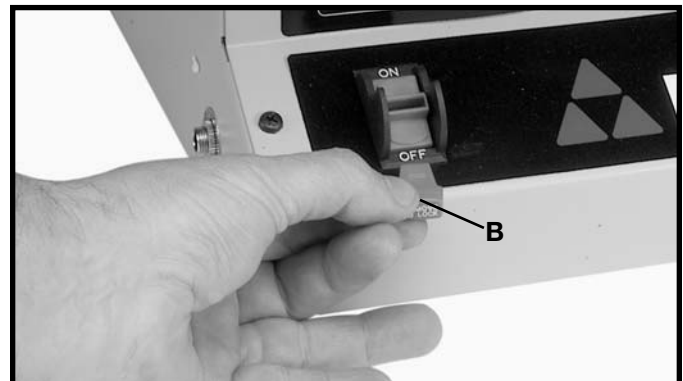

Fig. 15
IMPORTANT: When the machine is not in use, the switch should be locked in the "OFF" position to prevent unauthorized use. This can be done by grasping the switch toggle (B) Fig. 15, and pulling it out of the switch as shown. With the switch toggle (B) removed, the switch will not operate. However, should the switch toggle be removed while the machine is running, it can be turned "OFF" once, but cannot be restarted without inserting the switch toggle (B).